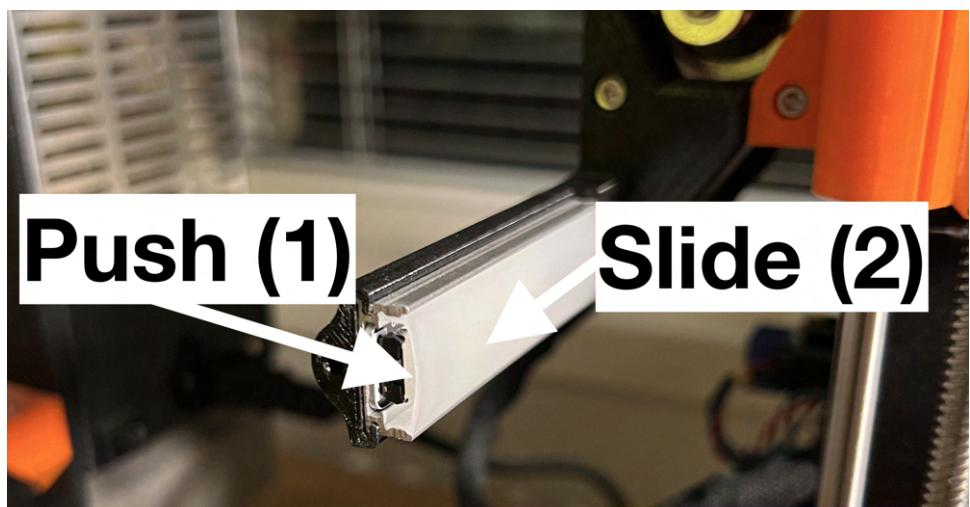

Figure 19: Caption
2. Remove the cap by pulling it towards you, at this stage it should look like 19. Process to either (1) push off the diffuser where the arrow points or try to slide it off in the direction shown by (2) in Figure 19.